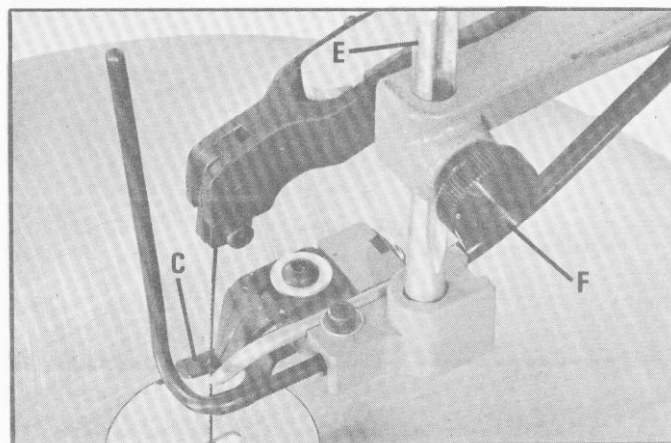

Fig. 23
The guide post (E) Fig. 23, is adjusted according to the thickness of the work by loosening knob (F) and moving the guide post up or down accordingly. Then tighten knob (F). The holddown spring (C) Fig. 23, should always be brought down as close to the work as possible. The maximum capacity under the hold-down spring is 2". The capacity which can be cut with the table tilted will be less.